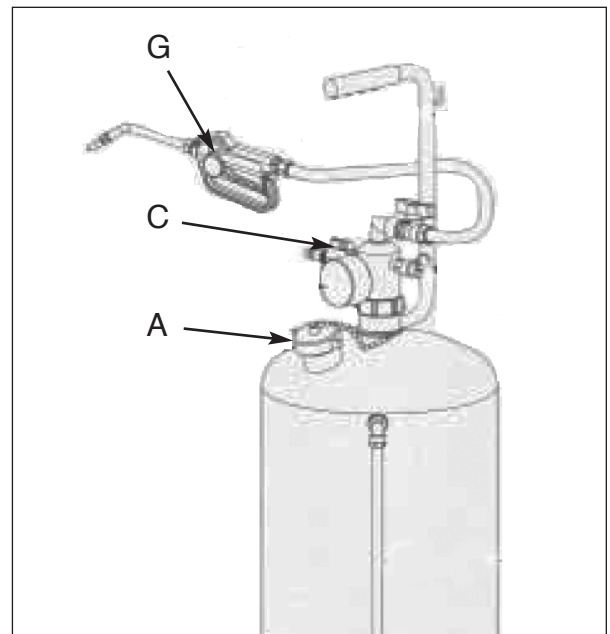

Fig. 4
5. To dispense fluids, squeeze the handle on the fluid delivery gun G. (See Fig. 4)